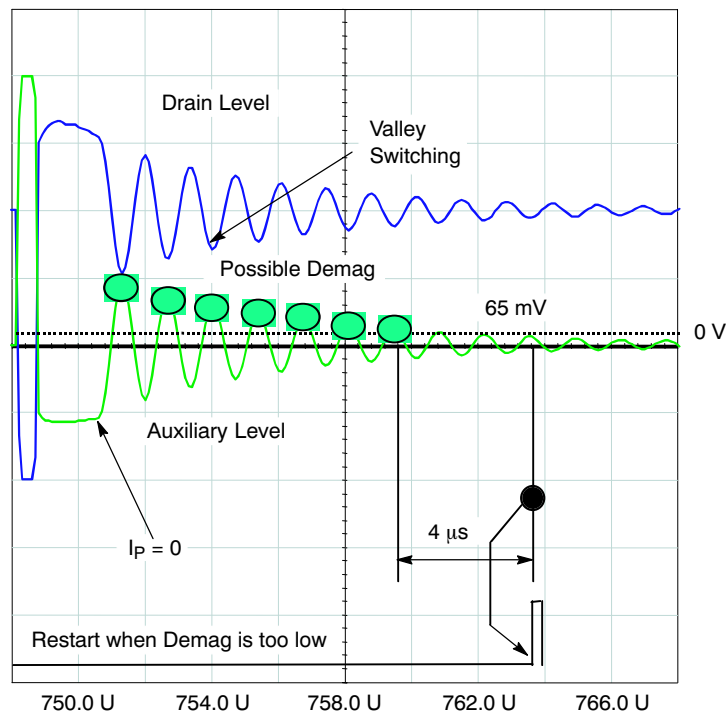

Figure 6.
To detect the zero primary current, we make use of an auxiliary winding. By coupling this winding to the primary, we have a voltage image of the flux activity in the core. Figure 6 details the shape of the signal in BCM.
The auxiliary winding for demagnetization needs to be wired in FORWARD mode only. As Figure 6 depicts, when the MOSFET closes, the auxiliary winding delivers  $(N_{aux}/N_p \cdot V_{in})$ . At the switch opening, we couple the auxiliary winding to the main output power winding and thus deliver:  $(-N_{aux}/N_s \cdot V_{out})$ . When DCM occurs, the ringing also takes place on the auxiliary winding. As soon as the level crosses-up the internal reference level (65 mV), a signal is internally sent to re-start the MOSFET. Three different conditions can occur:
3. As can be seen from Figure 6, the parasitic oscillations on the drain are subject to a natural damping, mainly imputed to ohmic losses. At a given point, the demag activity on the auxiliary winding becomes too low to be detected. To avoid any re-start problem, the TY72011 features an internal 4.0 μs timeout delay. This timeout runs after each demag pulse. If within 4.0 μs further to a demag pulse no activity is detected, an internal signal is combined with the VCO to actually re-start the MOSFET (synchronized with Ct).